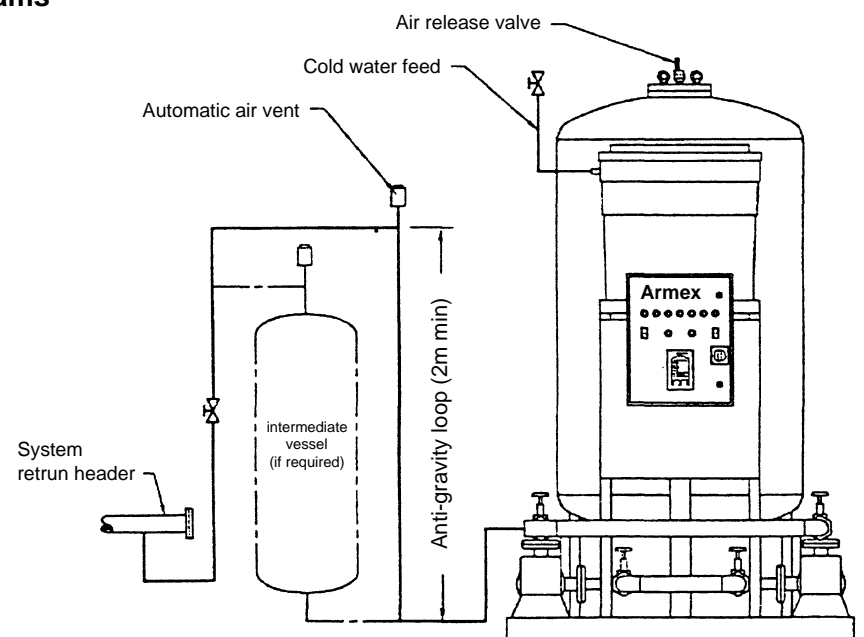
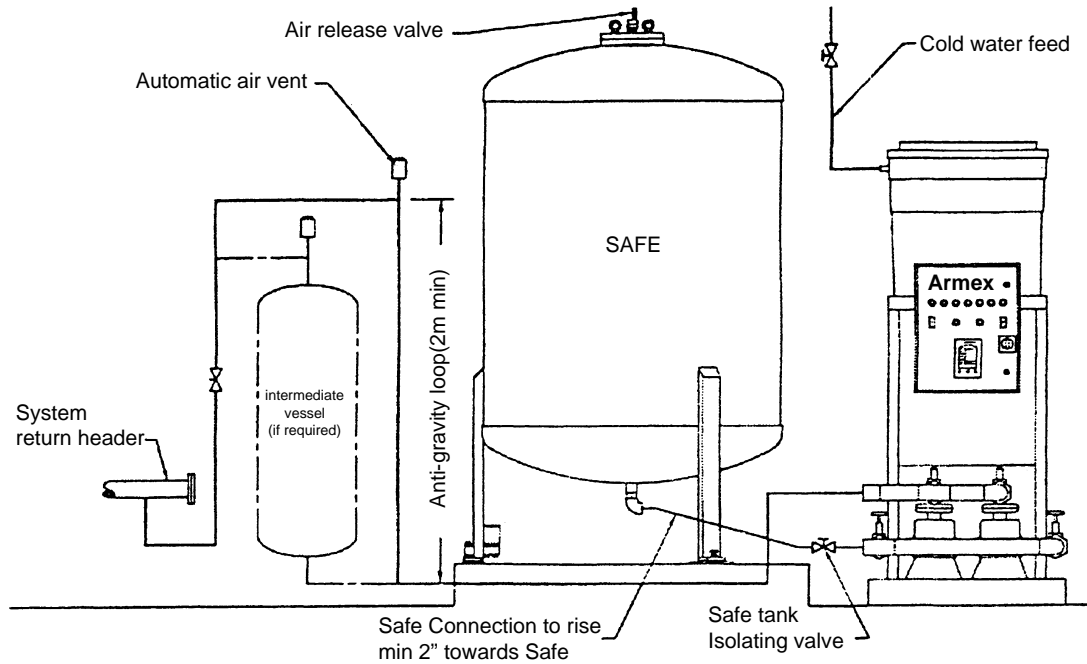

Fig.1
Fig.2
1. Install the equipment as indicated on Fig. 1. (Integral transfer/*SAFE* units) or Fig. 2 (Separate/Multiple *SAFE*s)
3. Fit isolating valves where indicated on Figs. 1 & 2.
7. Fit air release valves (supplied loose) to top of *SAFE* (see Figs. 1 & 2).